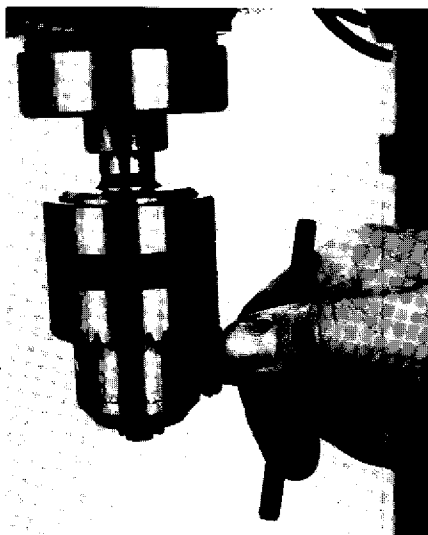

FIGURE 8
4. Tighten the chuck with the key using all key locations (See Figure 8).